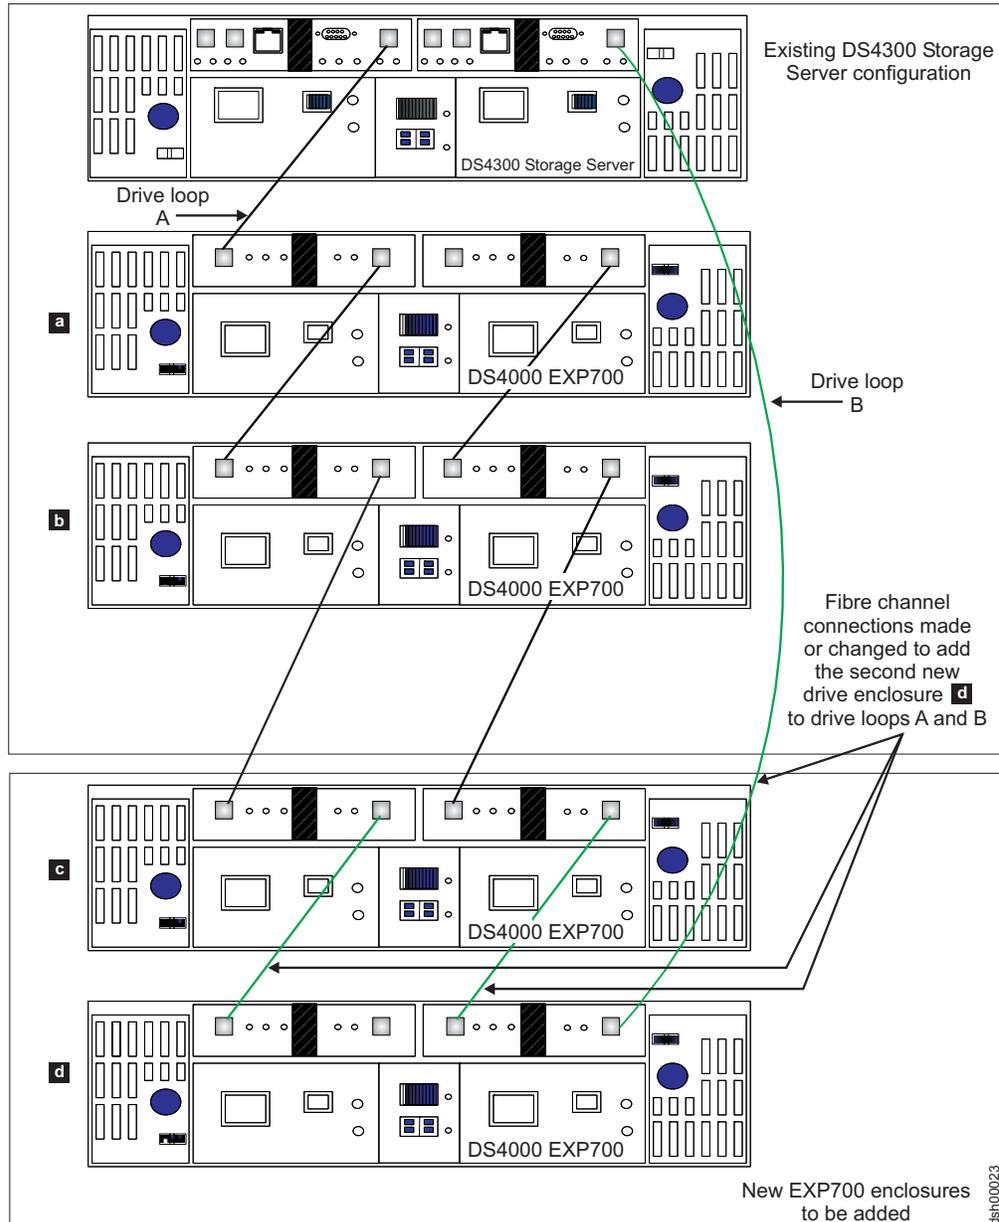

Figure 32. Cabling a second drive enclosure to the end of a functioning drive loop
- If you are connecting additional storage expansion enclosures to the end (bottom) of a drive loop, complete step 2 on page 75 through step 7 on page 76, and step 1 (immediately preceding this step) for each additional storage expansion enclosure that you intend to add. (See Figure 32 on page 88.)